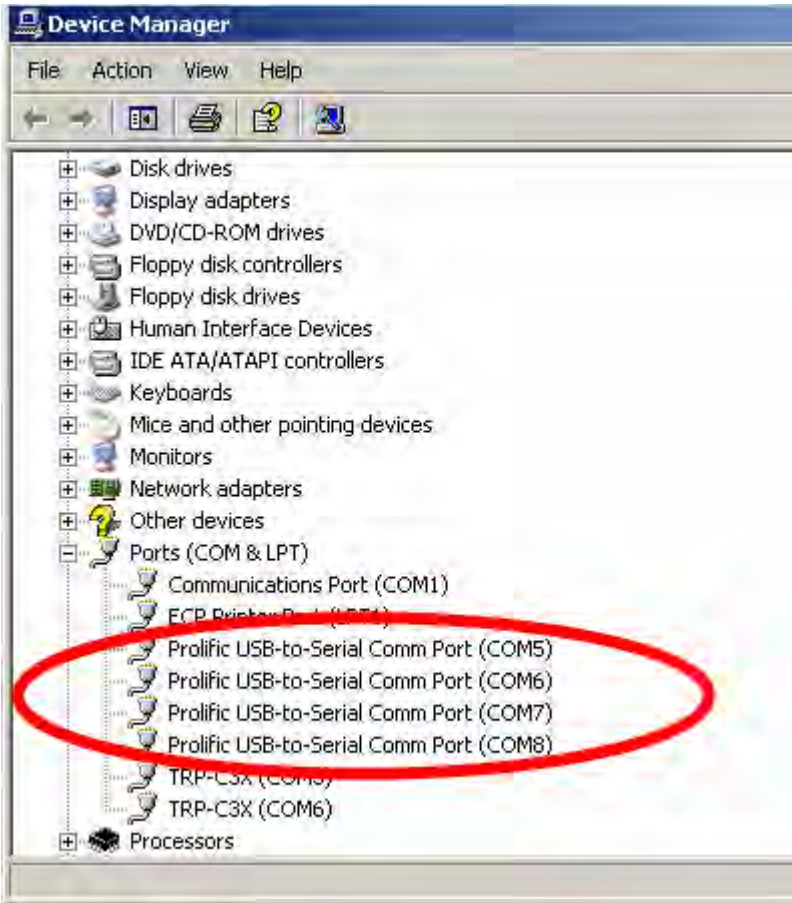

Fig.4
5. After driver installation, please follow the following process to verify whether the device was properly installed. Click Start – Setting -- Control panel -- double click system icon – Hardware Device Manager -- Double click on ports (COM&LPT) .(See Figure 4)